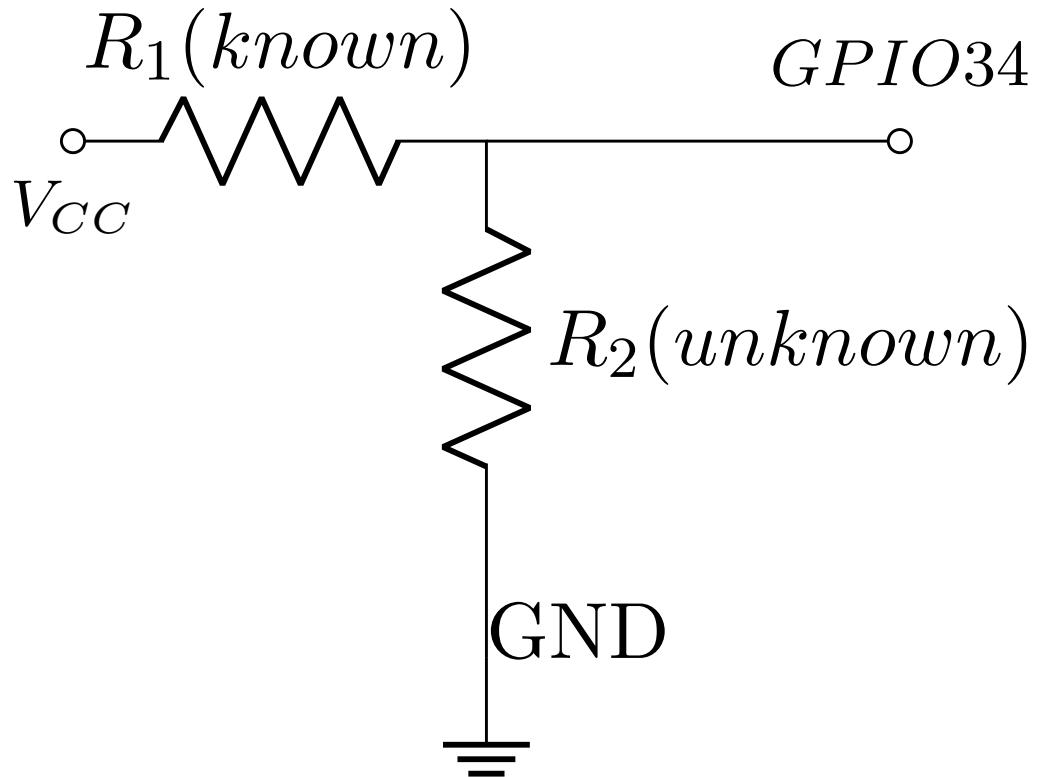

Figure 1.5: Voltage Divider
1.2.3.3. Let R_1 be the known resistor and R_2 be the unknown resistor. Connect R_1 and R_2 in series such that R_1 is connected to V_{cc} and R_2 is connected to GND. Refer to Figure 1.5.
1.2.5.4. The Ohm meter in this manual works on the principle of the voltage divider shown in Figure 1.5.
1.4.3.3. Let R_1 be the known resistor of 1k ohm and R_2 be the unknown resistor. Connect R_1 and R_2 in series such that R_1 is connected to V_{cc} and R_2 is connected to GND. Refer to Figure 1.5.